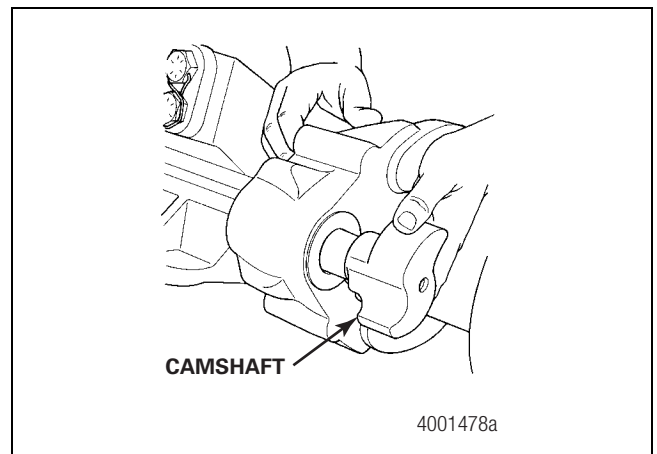

Figure 5.8
- Remove the camshaft from the spider and bracket. Figure 5.8.